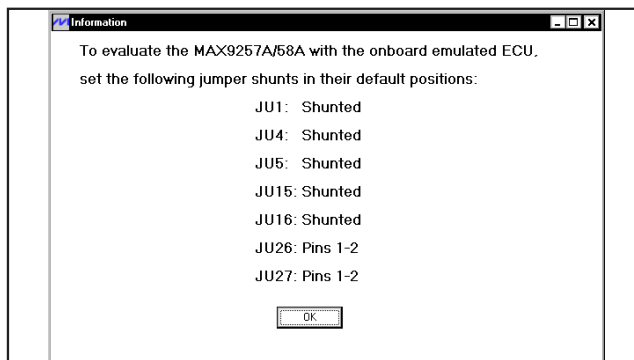

Figure 1. MAX9257A/MAX9258A Evaluation Kit Software—MAX9257 REM Status
- 12) Press the **Yes** button on the popup window (Figure 1), which verifies if the ECU remotely wakes up the MAX9257A. If the REM pin of the MAX9257A is set to high, the ECU should wake up the MAX9257A by setting the REG08 PD bit to low. If the REM pin of the MAX9257A is set to low, the MAX9257A is powered up when VCC is applied.